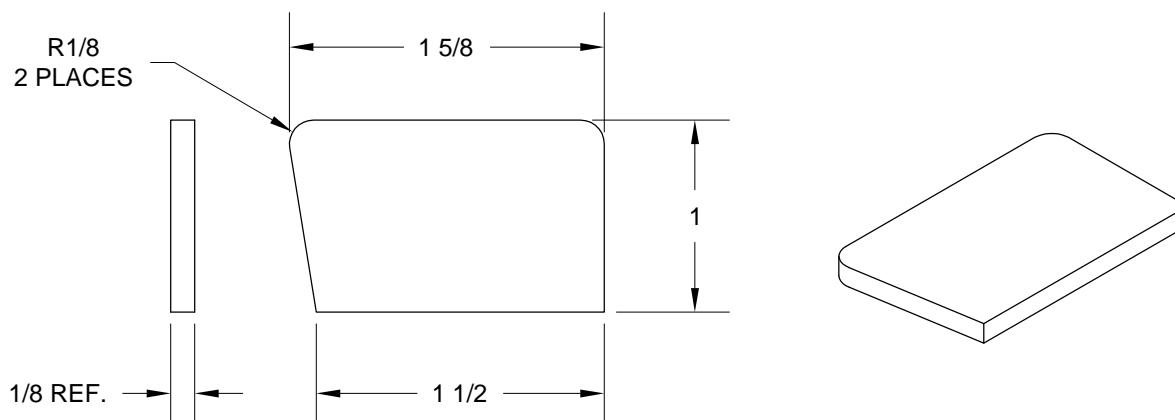

FIGURE 2: FABRICATE SHIMS
Step 2: Fabricate four F-1098 Shims as shown in Figure 2 from AB4-125X1 1/2 aluminum bar.